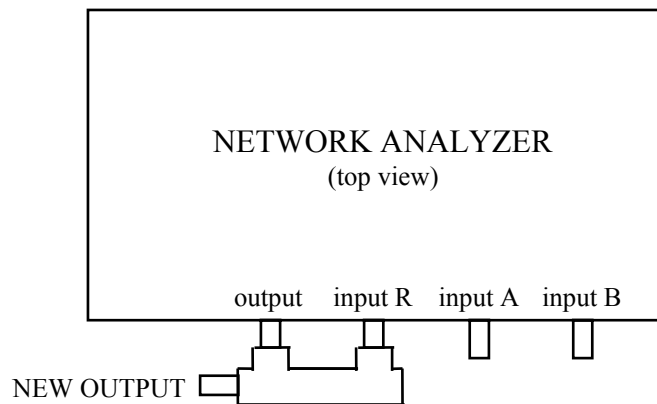

Figure 1. Proper network analyzer configuration for frequency response measurement.
1. Before turning on the network analyzer, connect the OUTPUT port to the INPUT R port with the two Type N “T” connectors and the Type N barrel connector as shown in Figure 1 below.
- (1) Press the **ATTEN** button on the analyzer. The attenuator menu appears on the right side of the screen.
- (2) Press the buttons next to the **ATTEN R**, **A**, and **B** statements on the menu until 20 dB is brighter for all three. (This switches 20-dB attenuators into all three network analyzer ports and helps protect the analyzer from excessive signal levels.) If the 20-dB statement(s) is/are already brighter, you don't have to press the button(s).
- (3) Set input impedance of network analyzer ports:
- (a) Unless you are going to measure the s-parameters of your network (in which case, see the section of this manual on the measurement of s-parameters), always set the input impedance of the R port to 1 M Ω by pressing the the button next to the **IMPED R** statement until 1 M Ω appears brighter on the screen. (Explanation: Due to the connection illustrated in Figure 1, your circuit sees a source impedance from the network analyzer produced by the network analyzer output port in parallel with port R. The network analyzer output port impedance is always 50 Ω , so if you select the R port impedance to be 50 Ω your circuit will see two 50- Ω impedances